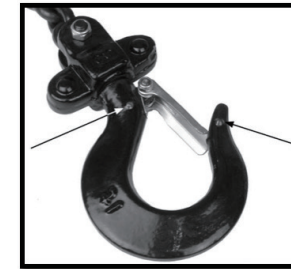

FIG 1
- The top and bottom hooks on your Sumner chain a space hoist are designed to open to warn of an overload. Both top and bottom hooks (1/4T to 5T models) have indicator points cast into the hook per FIG 1. The measurement between indicator points must fall below the limit shown in FIG 16. If it exceeds the limit, the hook must be replaced. Hooks for 15 and 20-ton hoists do not have indicator points. Measurements are made at the jaw opening.